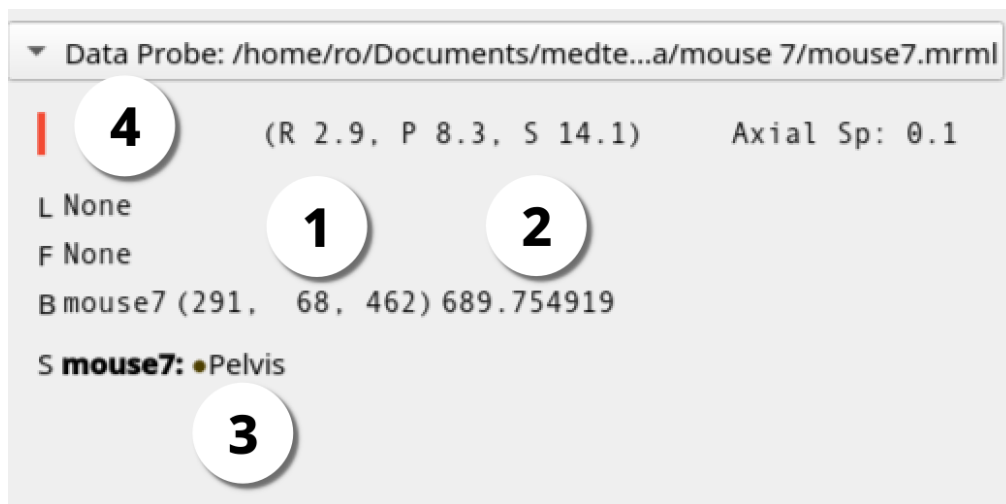

Figure 9: 3D Slicer Dataprobe
The numbers in brackets in figure 9:1 display the x-, y- and z-Position of the ROI. After that, outside the brackets, it displays the Hounsfield unit (HU)
value of that ROI (figure 9:2).
In figure 9:3 the data probe shows which segmentation ROI belongs to if any. Figure 9:4 displays the currently loaded dataset.